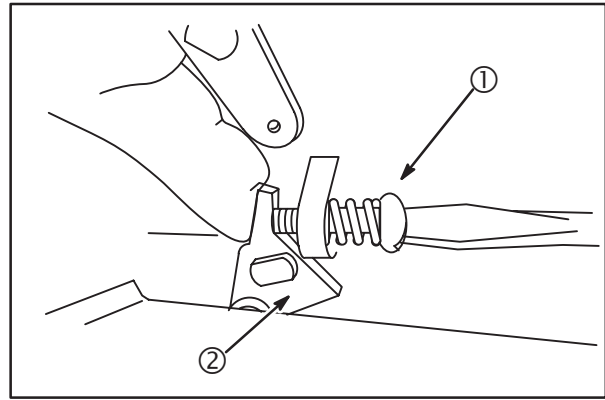
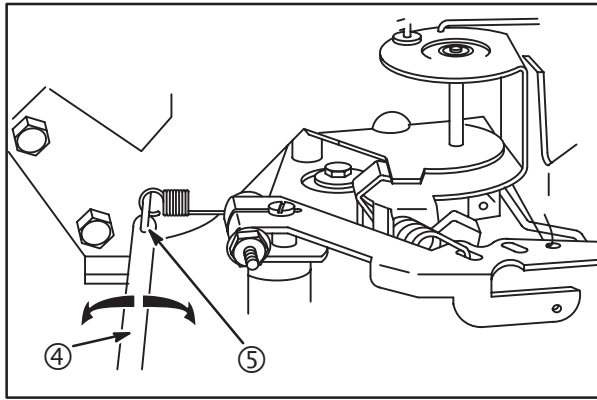

Fig. 10
Fig. 12
3. Hold throttle lever (2) against idle speed screw (1), Fig. 10. Temporarily adjust idle to RPM shown below.
5. Then turn idle mixture screw **COUNTER-CLOCKWISE** (3) until engine speed just starts to slow (**RICH** mixture).
6. Turn screw to mid point (2) between **RICH** and **LEAN**.
9. If necessary bend governed idle tang (5) with Tang Bender #19352 (4), Fig. 12, to obtain RPM shown: